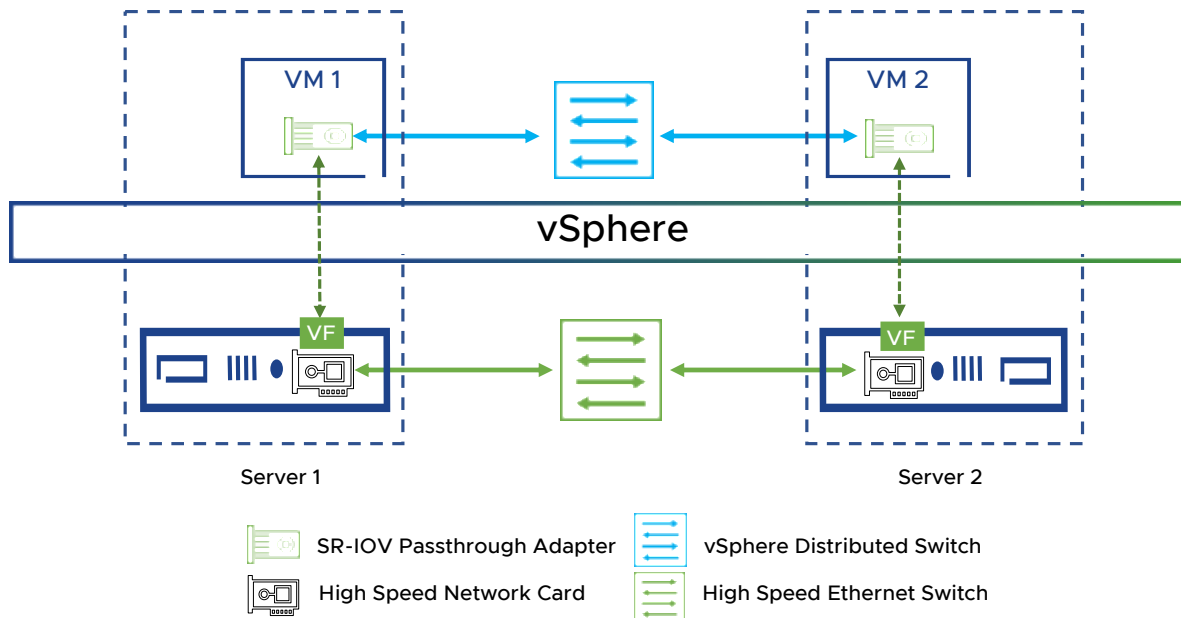

Figure 1: Illustration of the RoCE SR-IOV configuration.
**Figure 1** illustrates the general idea of the RoCE SR-IOV configuration on two VMs. We first enable SR-IOV functionality on the physical adapter card, then attach the VFs to VMs in vSphere, and use the virtual distributed switch (VDS) for the communication between them. Different from the IB SR-IOV document, the only change here is the physical connection. We use a high-performance Ethernet switch—the Dell PowerSwitch S5232F 100GbE—to connect servers. We will use the example of 16 VMs on 16 servers for benchmarking and performance testing.